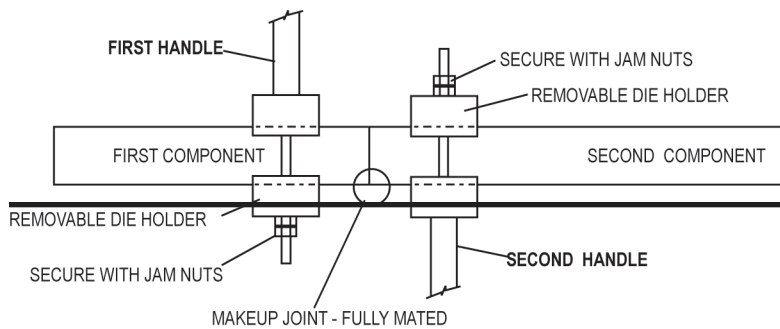

Fig. 10
4. Turn the spinner handle until the two components make full shoulder contact, then continue to turn for 1/4 to 1/2 revolution. The joint is now properly tightened (see Fig. 10, 11).